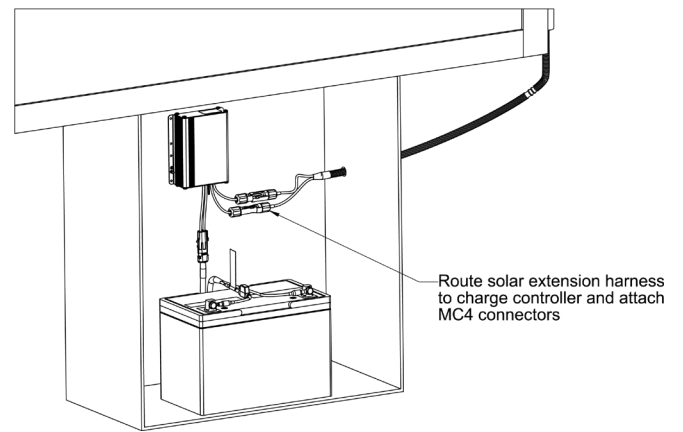

FIGURE 6
3. Connect the battery harness to the charge controller using the Delphi connectors. Route the solar controller's positive and negative connections to the positive and negative terminals on the battery. Attach the black wire to the negative terminal on the battery and the red/white wire to the positive terminal on the battery. (Figure 6)